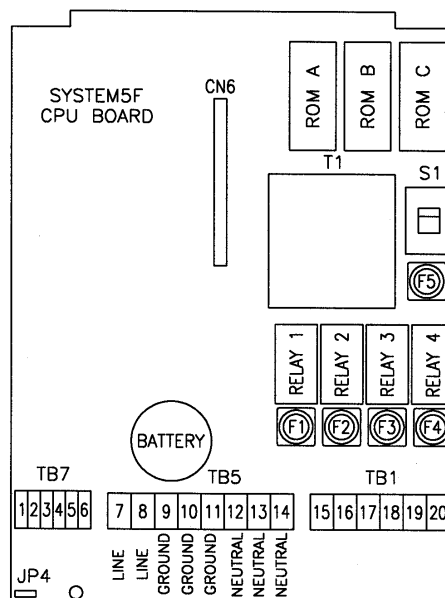

Fig 3.5
- Run Neutral (White) to terminal labeled “Neutral”. (All three “Neutral” terminals are connected.) (Fig 3.5)